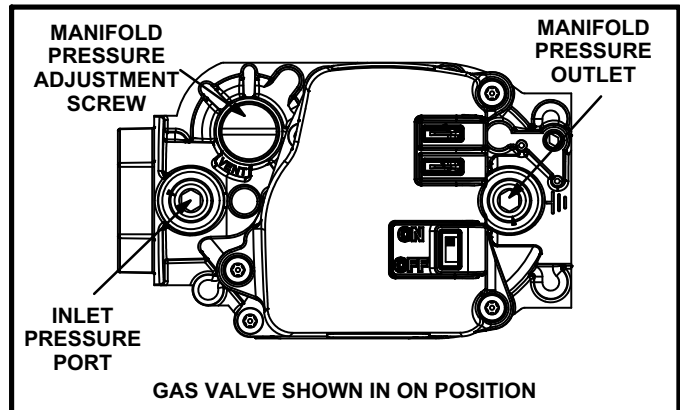

FIGURE 61
Gas Valve Operation (Figure 61)
- 6 - Move gas valve switch to **OFF**. See figure 61.
- 8 - Move gas valve switch to **ON**. See figure 61.
When testing supply gas pressure, use the 1/8” N.P.T. plugged tap or pressure post located on the gas valve to facilitate test gauge connection. See figure 61. Check gas line pressure with unit firing at maximum rate. Low pressure may result in erratic operation or underfire. High pressure can result in permanent damage to gas valve or overfire.